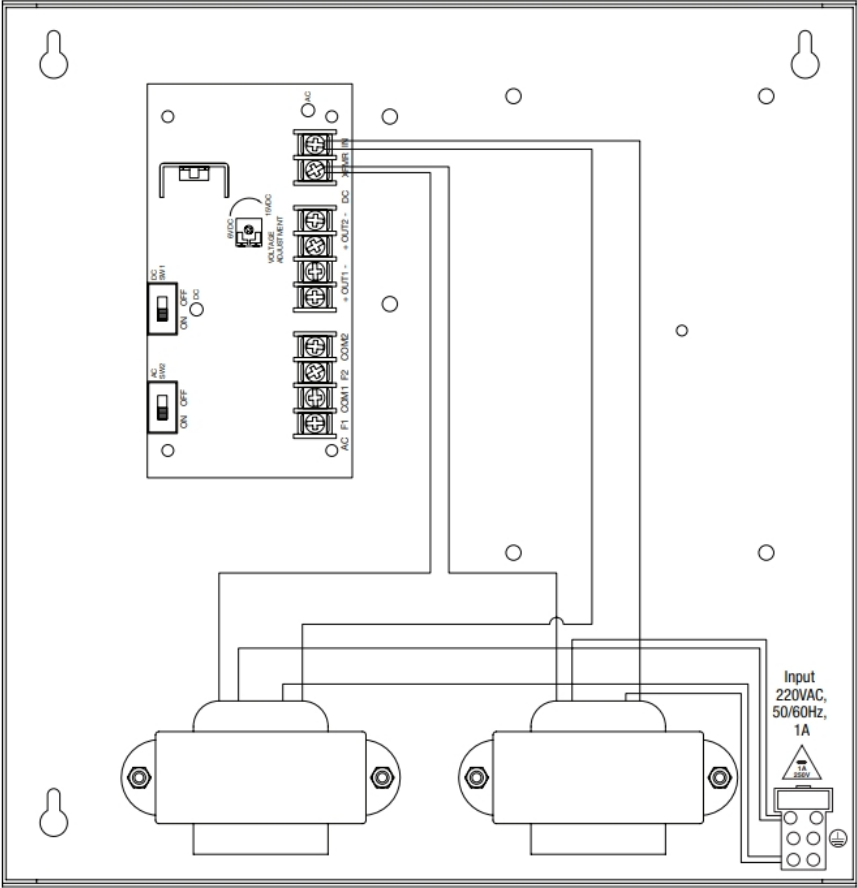

Fig.1
- Four (4) individually fuse protected outputs:
- Two (2) outputs @ 12VDC.
- Two (2) outputs @ 24VAC.
- 2A supply current at 12VDC (Fig. 1).
- 4A supply current at 24VAC (Fig. 1).